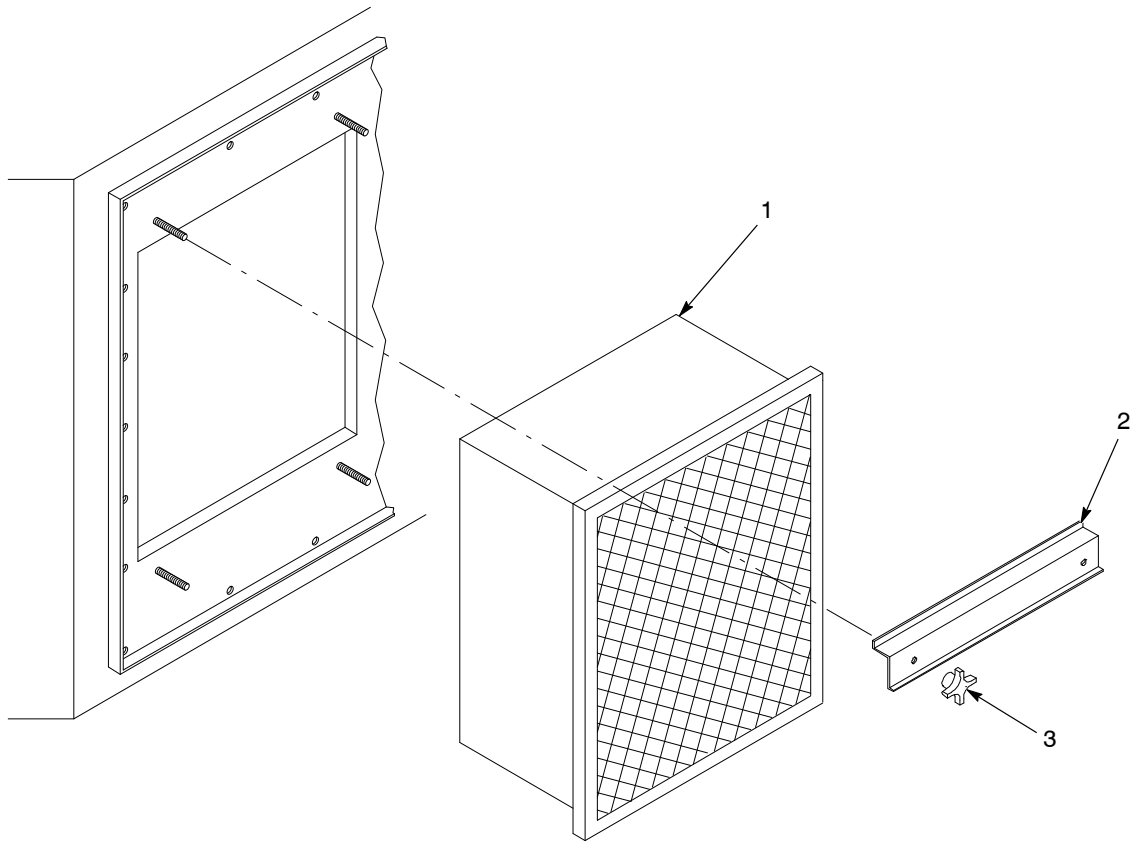

Figure 7-1 Final Filter Replacement
2. See Figure 7-1. Unscrew and remove the threaded knobs (3) and brackets (2) securing the final filters (1) to the fan compartment.